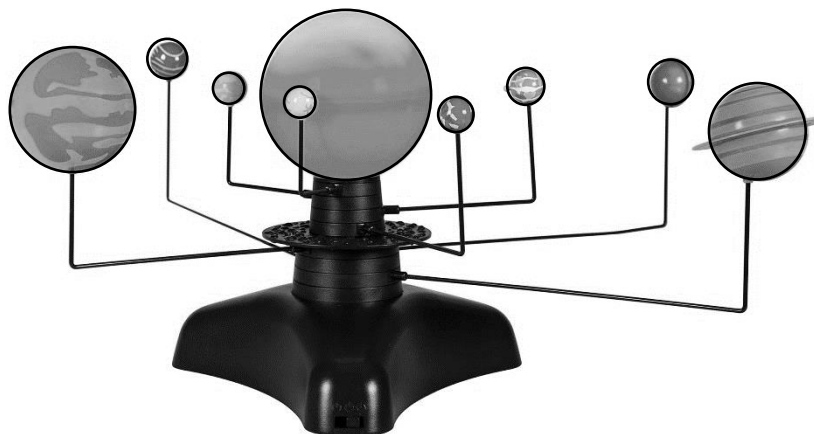

Figure 9
18. The working model of the solar system, which was on display during the Science Fair, is shown again in Figure 9. The model was designed and built by a group of secondary school students who also wanted to make it functional.
19. The solar model shown previously in Figure 9, was designed to be educational and interactive. Every planet can be switched individually by a touch sensitive switch. When the switch is ON, an LED lights up inside the planet for a small time period and the planets turn around the sun for one revolution.